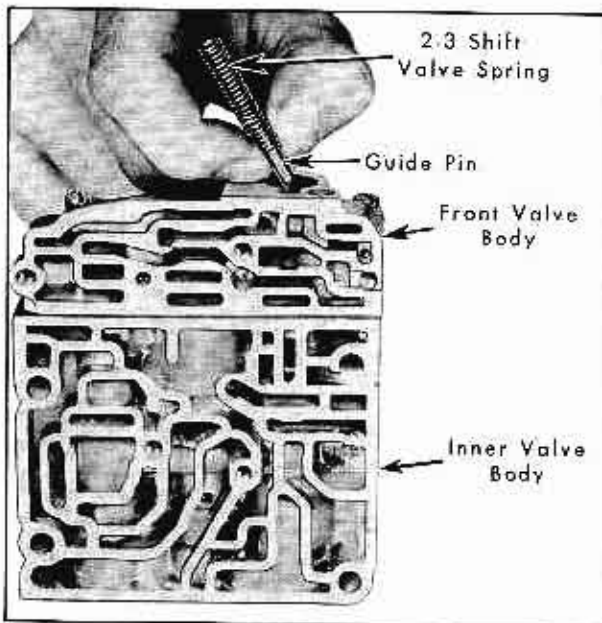

Fig. 14-75 Installing 2-3 Shift Valve Guide Pin, Spring and 1-2 Regulator Plug Spring
3. Insert 2-3 shift valve spring, guide pin, and 1-2 regulator plug spring through holes in separator plate in inner valve body. Fig. 14-75.